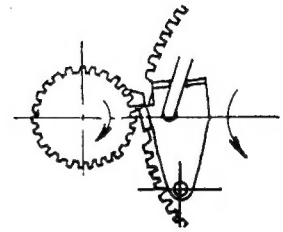

Fig. 4
5. When playing ends and the pick-up cartridge enters the lead-out groove which is spaced out, the engagement advances more than it is returned by the projection. Because of this, the engagement is pressed by the projection as shown in Fig. 4, causing the main gear to turn and engage with the turntable spindle gear. Thus the change cycle is started.